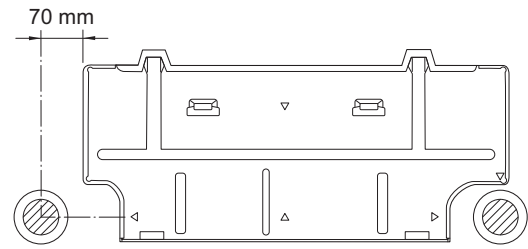

Fig. 2-158
- (1) Place the rear panel from the indoor unit on the wall at the location selected. Make sure the panel is horizontal, using a carpenter's level or tape measure to measure down from the ceiling. Wait until after cutting the hole before attaching the rear panel to the wall.
- (2) Determine which side of the unit you should make the hole for tubing and wiring. (Fig. 2-158)
In the case of left-rear tubing, use the measurement points from the edge of the rear panel for precise placement of the hose outlet. (Fig. 2-158)